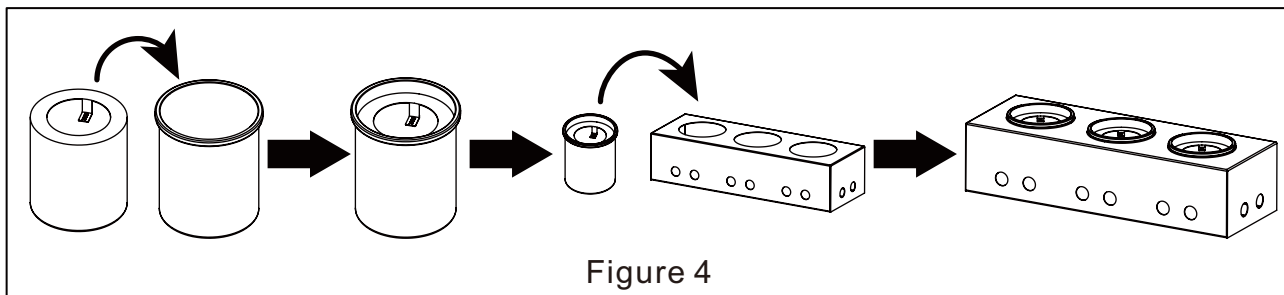

Figure 4
(1). Place the burner pot in the fire bowl body carefully, make the burner pot leveled (see Figure 4). The fire bowl can hold three burner pots at one time.